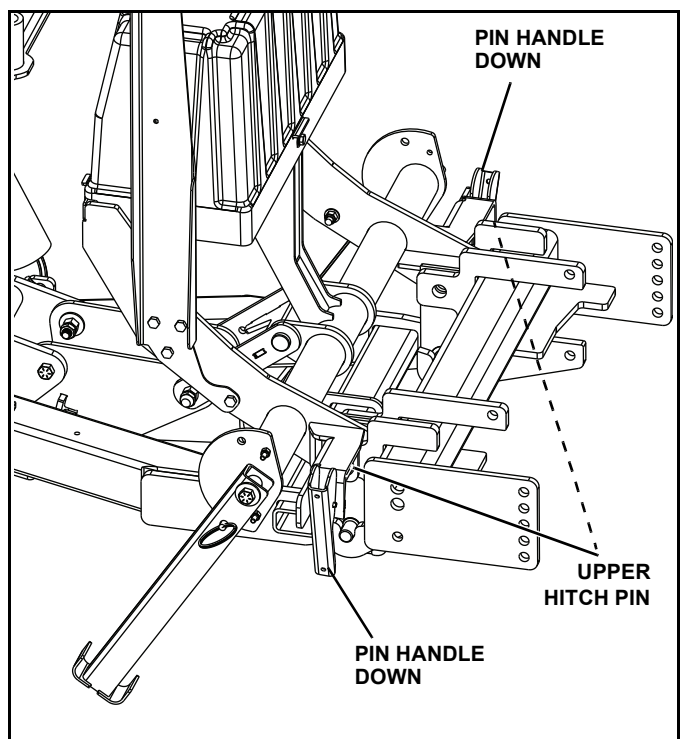

Figure 1-19
4. Rotate pin handles down to lock pins in place. Put plow in float position by turning down pressure off (See Figure 1-19).